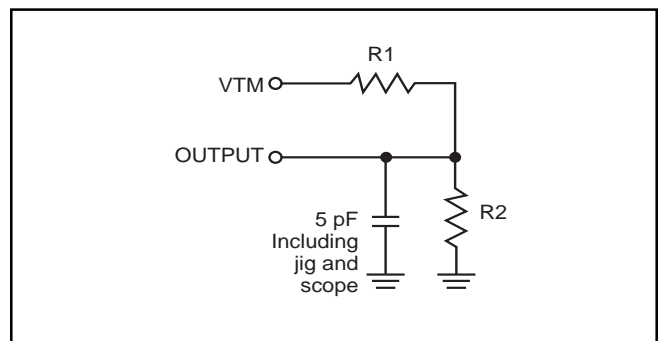

Figure 2
- Tested with the load in Figure 2. Transition is measured ± 500 mV from steady-state voltage. Not 100% tested.
3. Tested with the load in Figure 2. Transition is measured ±500 mV from steady-state voltage. Not 100% tested.